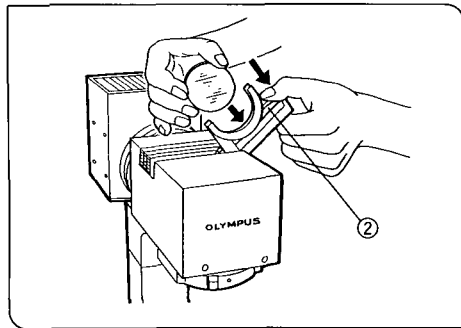

Fig. 77
2. While pressing down the protrusion of the plastic filter holder ②, insert the filter. (Fig. 77)